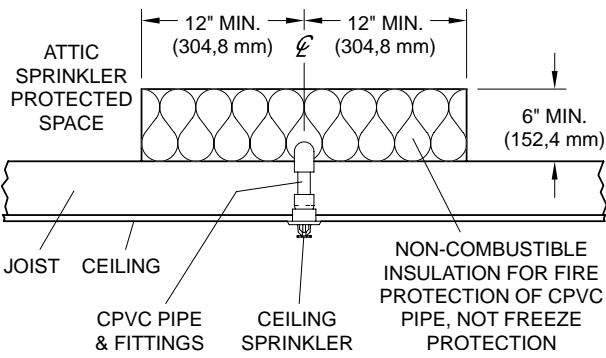

FIGURE 9A
- TFP BlazeMaster CPVC may be used to feed the wet system ceiling sprinklers on the floor below, there must be 6 inches (152,4 mm) of insulation covering the pipe extending 12 inches (304,8 mm) on each side away from the centerline of the pipe, and the area above the CPVC must be protected by TFP Specific Application Attic Sprinklers (Ref. Figure 9A). If the pipe is located inside the ceiling joist, the joist channel must be covered or filled with 6 inches (152,4 mm) of non-combustible insulation on top of the pipe and the area above must be protected by Attic Sprinklers (Ref. Figure (9B)). Insulation is for fire protection purposes. It is not freeze protection. BlazeMaster CPVC must be installed in accordance with the BlazeMaster installation guide instructions.